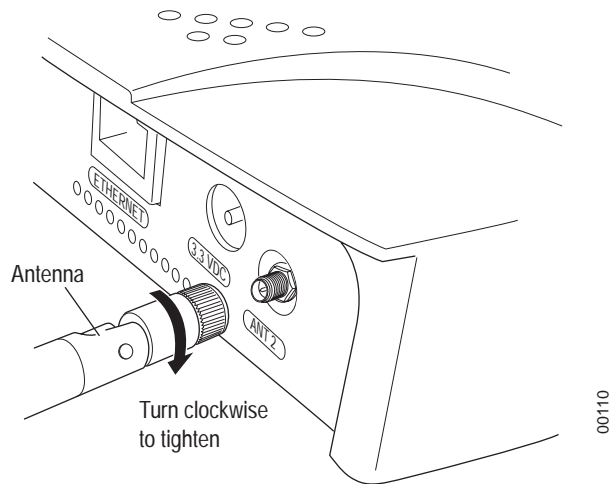

Figure 17: AP150 Antenna Connection
If the AP150 does not have external antennas, attach the antennas to the connectors on the AP150 (see Figure 17). Rotate the knurled ring at the base of the antenna clockwise to attach the antenna. The ring should be finger-tight.
2. For each antenna, loosen the knurled ring at the base of the antenna (see Figure 17), point the antenna straight up, then retighten the ring.
8. For external antennas, loosen the knurled ring at the base of each antenna (see Figure 17), point the antenna straight up, then retighten the ring.
9. For each antenna, loosen the knurled ring at the base of the antenna (see Figure 17), point the antenna straight down, then retighten the ring.
11. For each antenna, loosen the knurled ring at the base of the antenna (see Figure 17), point the antenna down, then retighten the ring.